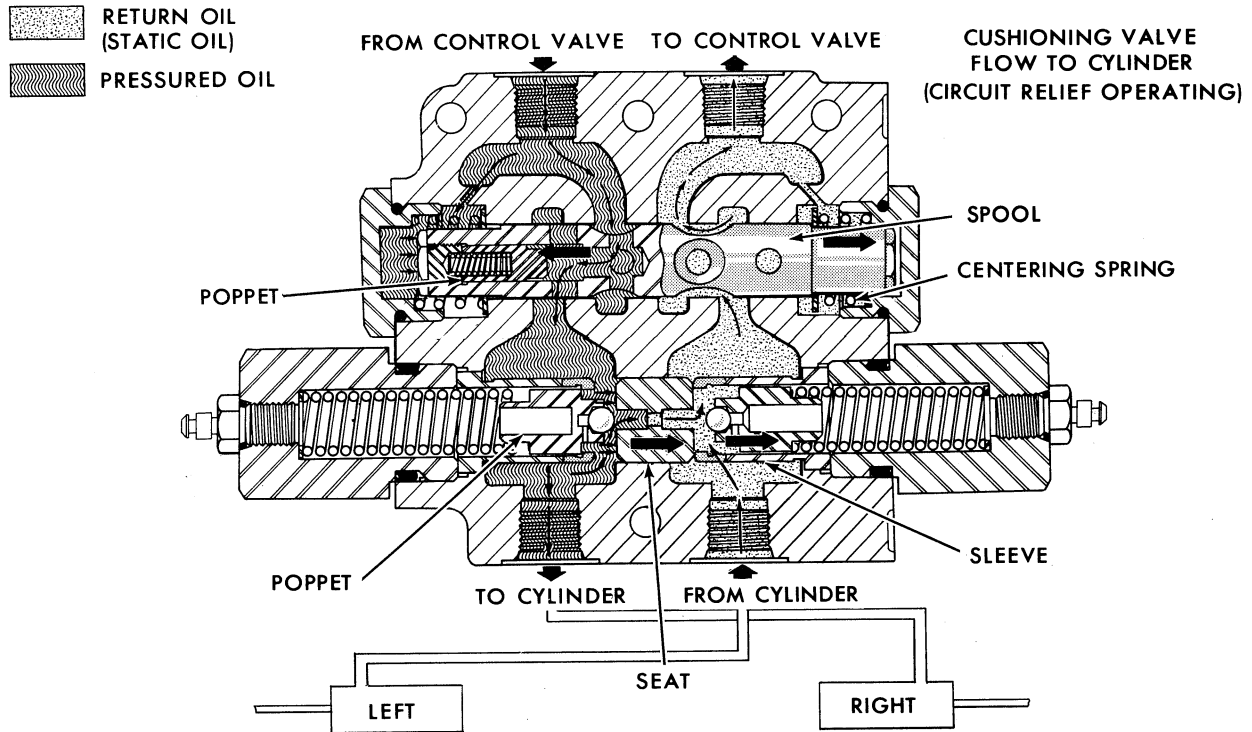

Figure 12
**Pressure Relief Action:** If the pump flow being directed to the right swing cylinder, as shown in Figure 12, becomes excessive due to cylinder overloading, this pressure reacts against the sliding seat in the same manner as detailed under "Cushioning Action". It should be noted that in this situation the oil does not flow to the opposite cylinder, but returns to sump through the control valve.